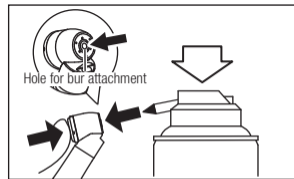

Fig. 13
- 2) Lubricate the chuck for 1 to 2 seconds directly through the bur insertion hole. (Fig. 13)